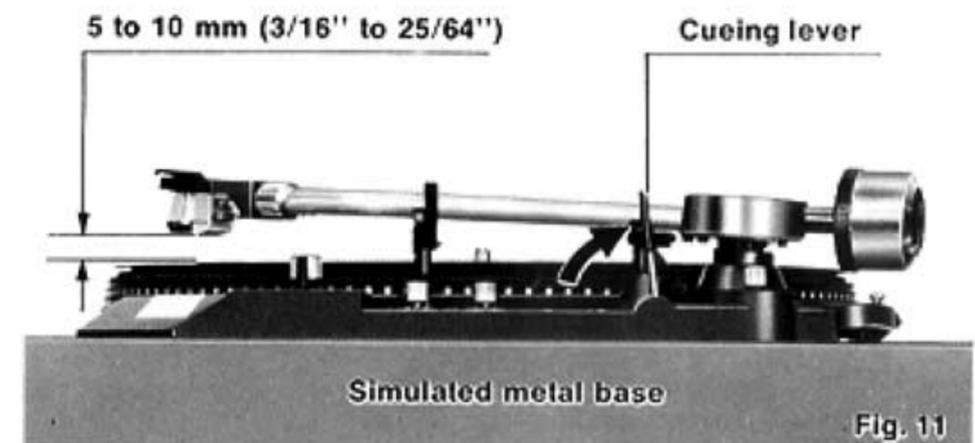

Fig. 11
*If, for any reason, it is not correct, turn the adjusting screw clockwise or counterclockwise while pushing down on the arm lift. (See Figs. 11 and 12)